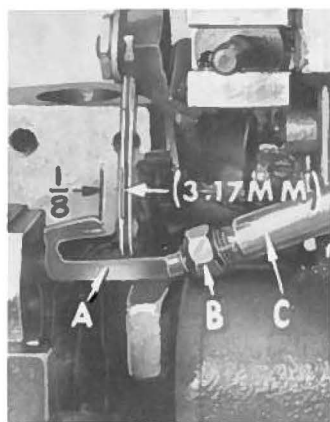

Fig. 4
At this point, insert lower spreader (A, Fig. 4) or lower looper (depending on the Style of machine) into bar (B). With the lower spreader or lower looper at the left end of its stroke, set the spreader point or looper point  $\frac{1}{8}$  inch (3.17 mm) to the left of left needle centerline using looper gauge No. 21225 G-1/8. Do not have lower spreader or lower looper deflecting the needles. Tighten nut (C).